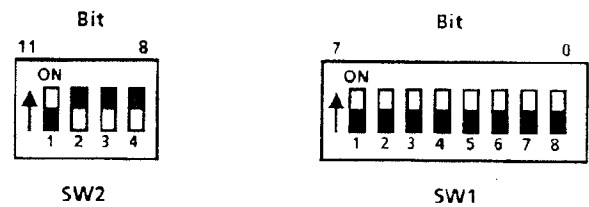

Figure 4.1 Address Switches
The twelve switches are located at the bottom rear corner of the module and are accessible without removing the protective cover. The twelve switches are in a group of eight, bits 0-7, and a group of four, bits 8-11. When a switch is in the "ON" position, that bit is a logical "1". Figure 4.1 shows the layout of the address switches.
In Figure 4.1, the address switches for bits 8 (256), 9 (512), and 10 (1024) are set to the logical '1' position, giving a module address of 1792 (256 + 512 + 1024).